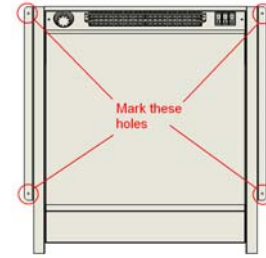

Figure 2
- Offer the unit into position central to the opening, using the fire as a template mark the fixing hole positions (as shown in Fig 2.) onto the opening medium, remove the fire from the opening.